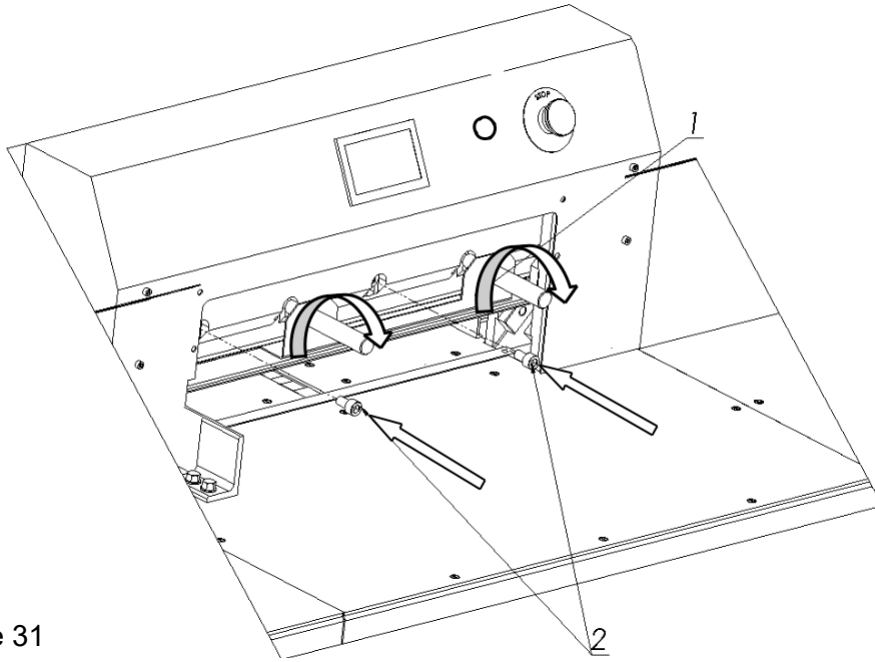
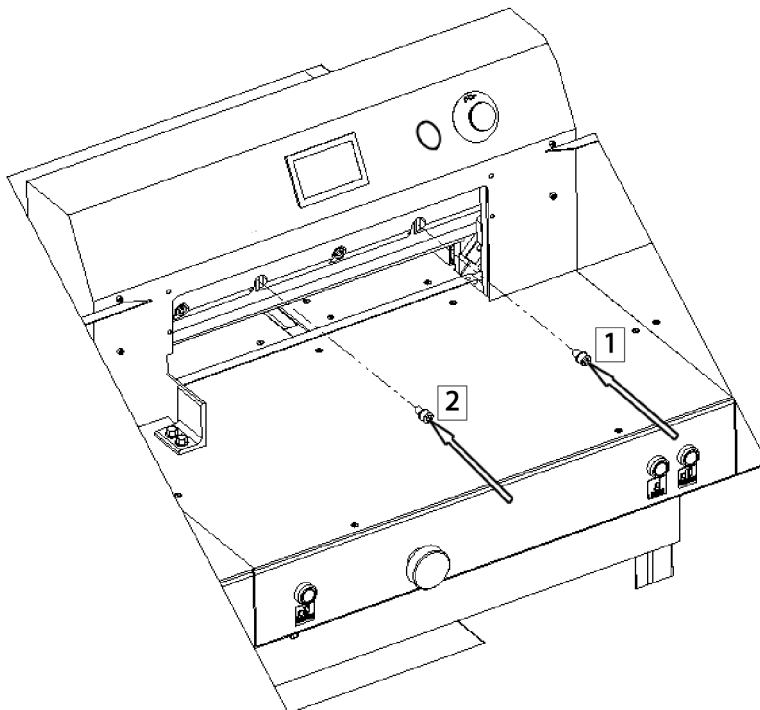

Figure 31
Figure 32
8.1.2.4 Pre-attach the knife to the cutter bar by turning both transporting handles 1 to the right (fig. 31).
8.1.2.5 Install the fastening screws 2 (fig. 31).
8.1.2.6 Unscrew both transport lugs 1 (figure 31) and replace them with the mounting screws 1 and 2 (fig. 32).
8.1.2.7 Slightly unscrew the first screw on the left side of the clamping screw 2 (Fig. 31), taking care that the screw head does not protrude above the knife beam sliding plane.
8.1.2.19. Firmly tighten the first screw on the left side of the knife. 2 (Fig. 31).